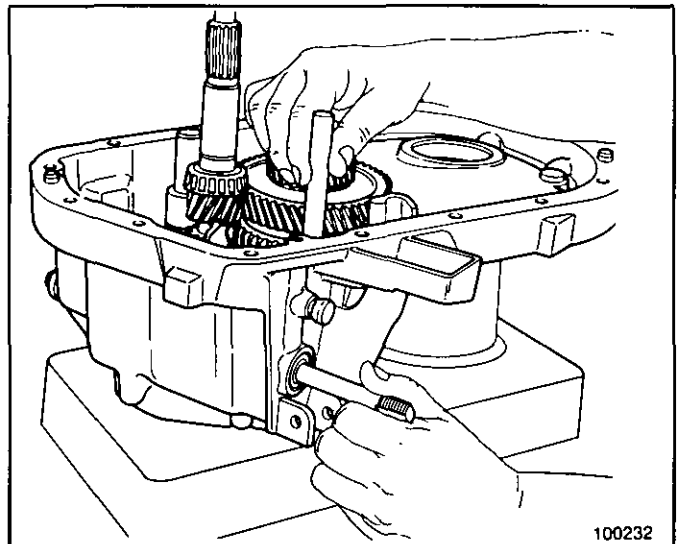

Figure 10 Removing Shifter Shaft
2. Bend back tab on lock and remove bolt from shifter shaft. Remove the shifter shaft and the shift fork shaft from the synchronizer forks as shown in Figure 10.